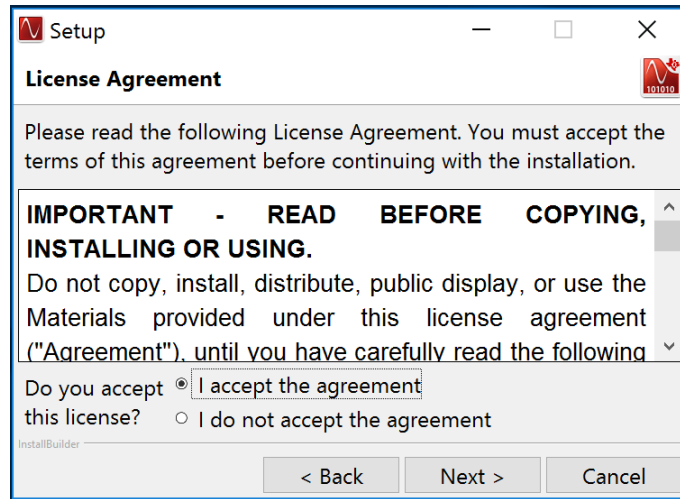

Figure 23. HSDC Pro Install (TI License Agreement)
3. Read the License Agreement from Texas Instruments and select *I accept the License Agreement*, then press the *Next* button as shown in Figure 23.